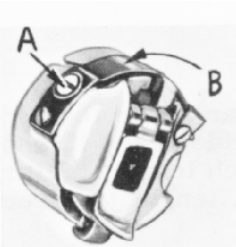

Fig. 10
The tension on the bobbin case is applied by means of a set screw (A, Fig. 10) which regulates the tension spring (B). The tension on the spring is correct when it is just sufficient to hold the bobbin case and bobbin suspended by the bobbin thread. The thread should not be in the eyelet for this adjustment check.